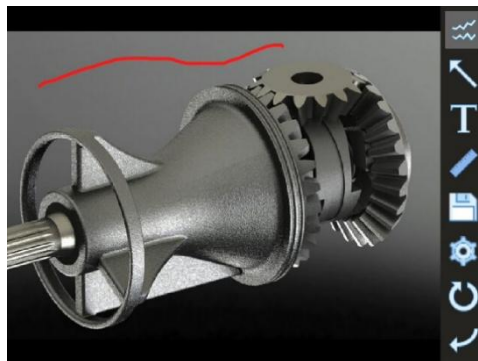

Figure 9-29
- After entering the picture editing mode, click the curve icon to draw a line on the picture (see figure 9-29):